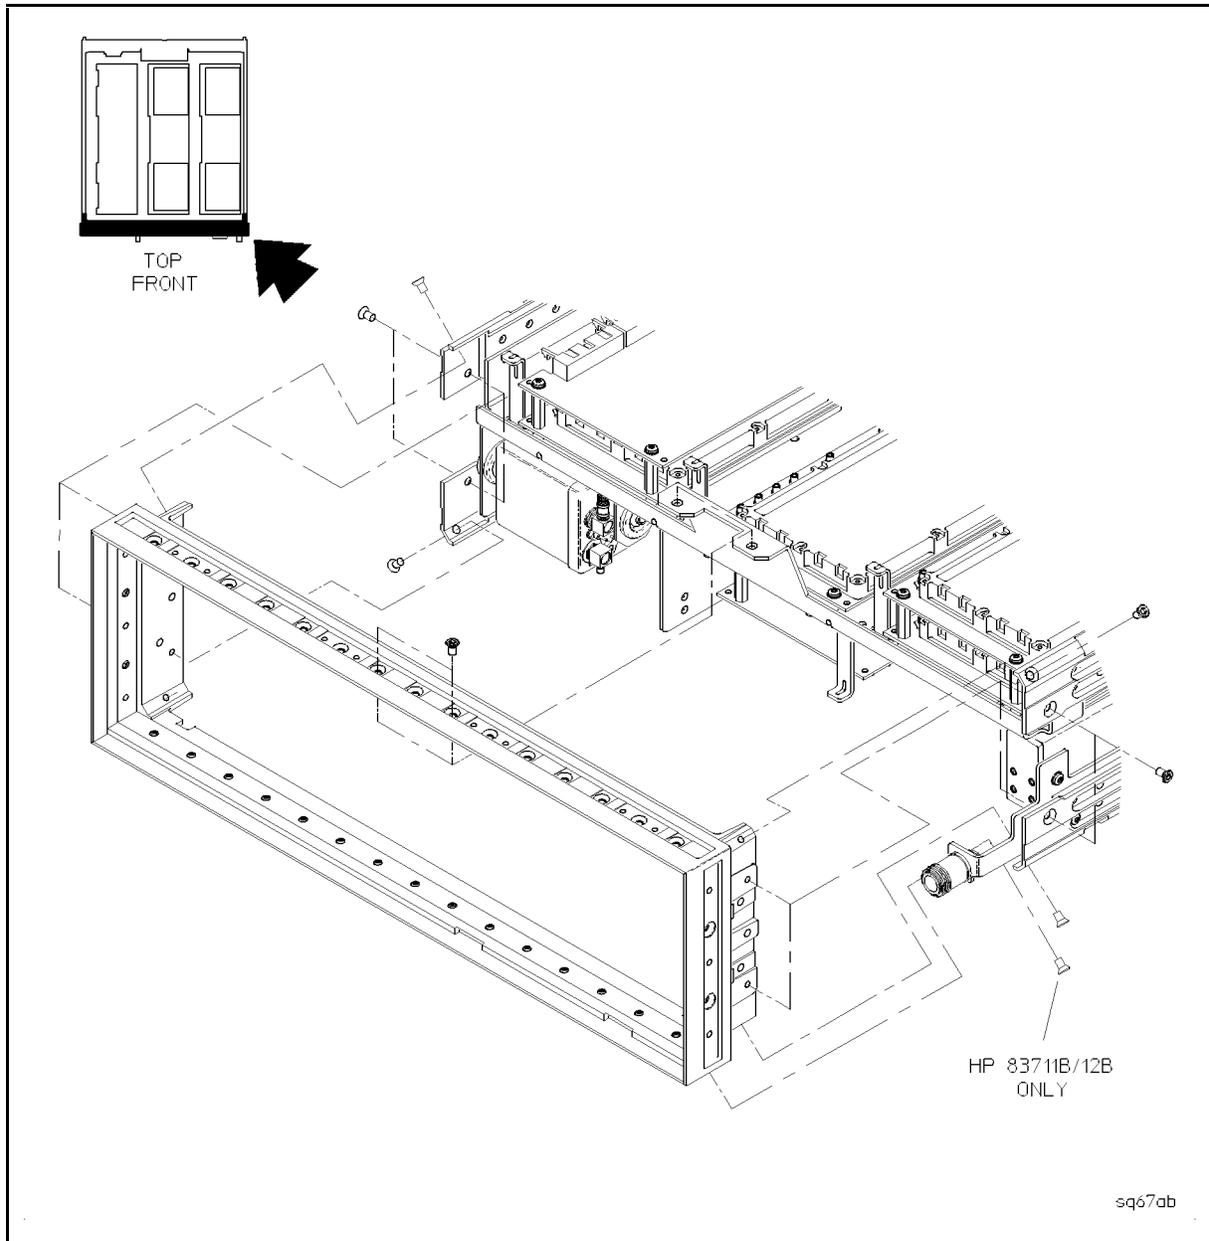

Figure 5-34. Front Frame Removal
2. Using a size 10 and 15 TORX® screwdriver, remove the ten screws from the front frame. See Figure 5-34.